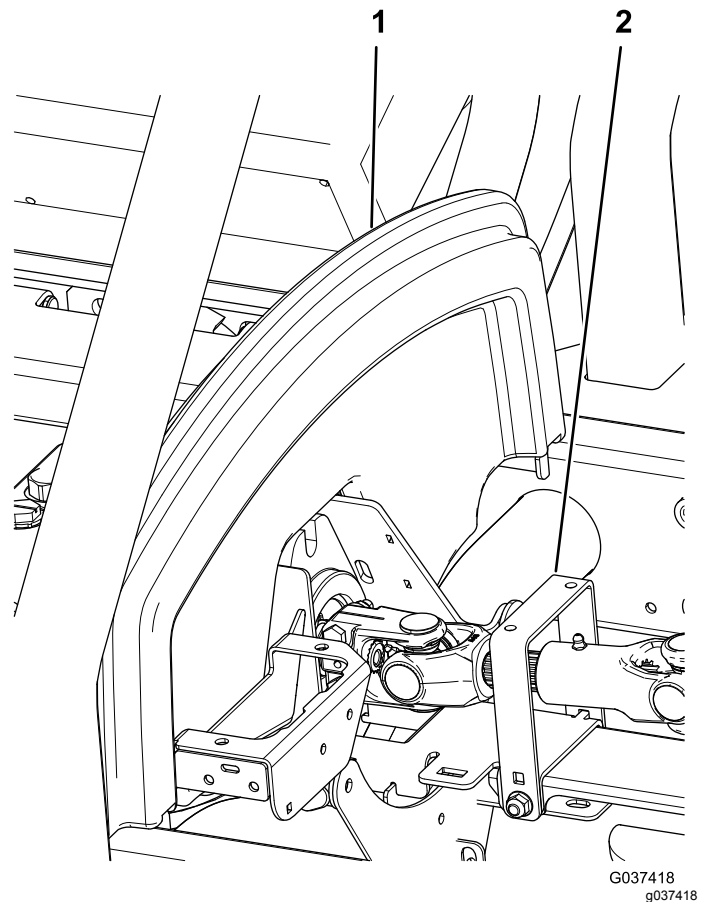

Figure 1
2. Tip up the seat, open the hood, and remove the hood saddle (Figure 1).
3. Remove the drive-line guard (Figure 1).
- Install the drive-line guard (Figure 1).
- Install the hood saddle and lower the seat (Figure 1).